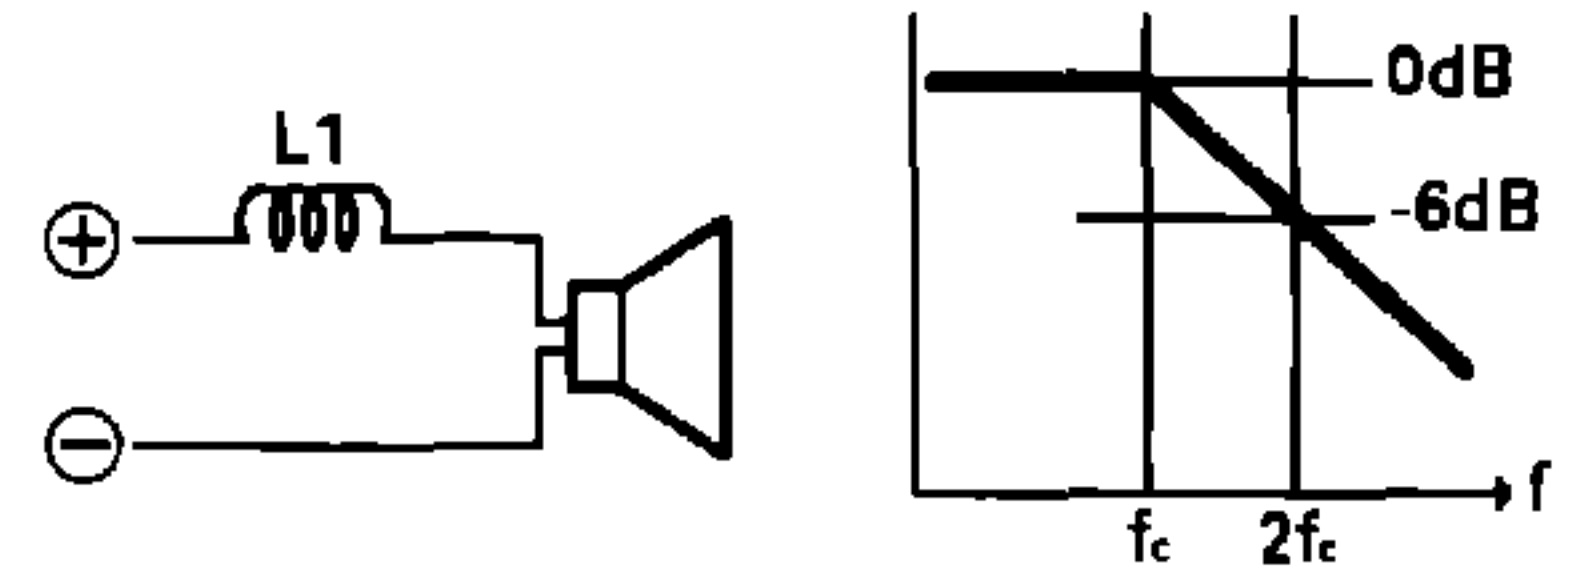

Fig. 21
Low-pass filter (for sub-woofer/woofer): 6 dB/octave (Fig. 21)
- A multi-channel system can be set up using a combination of filters Figs. 21, 22, and 23. The inductance (L) and capacitance (C) will determine the frequency (fc) that the speaker will reproduce. Refer to the previous charts to determine the components required.